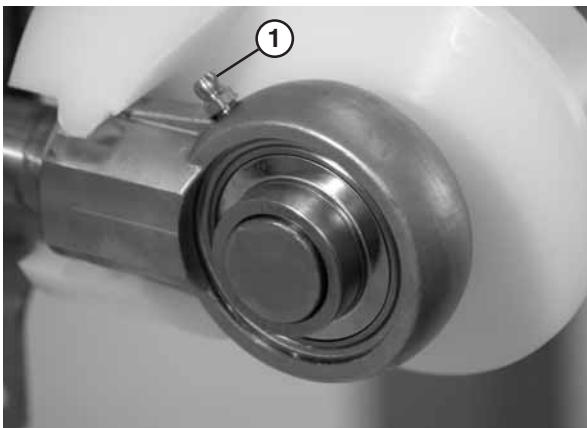

Figure 56
1. Add grease to the bearing using the zerk fitting (**Figure 56, item 1**) on the exterior of the bearing shaft assembly.